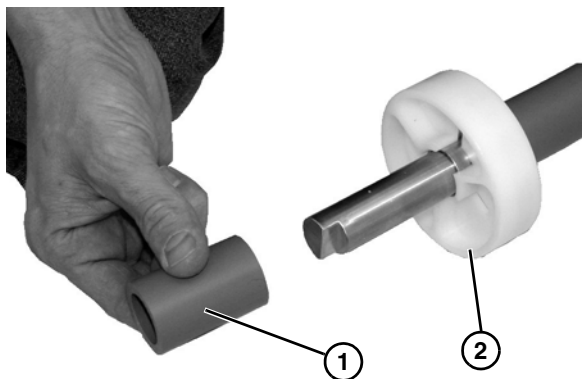

Figure 54
- Slide off the round puck spacer (Figure 54, item 1).
- Slide off puck and replace (Figure 54, item 2).